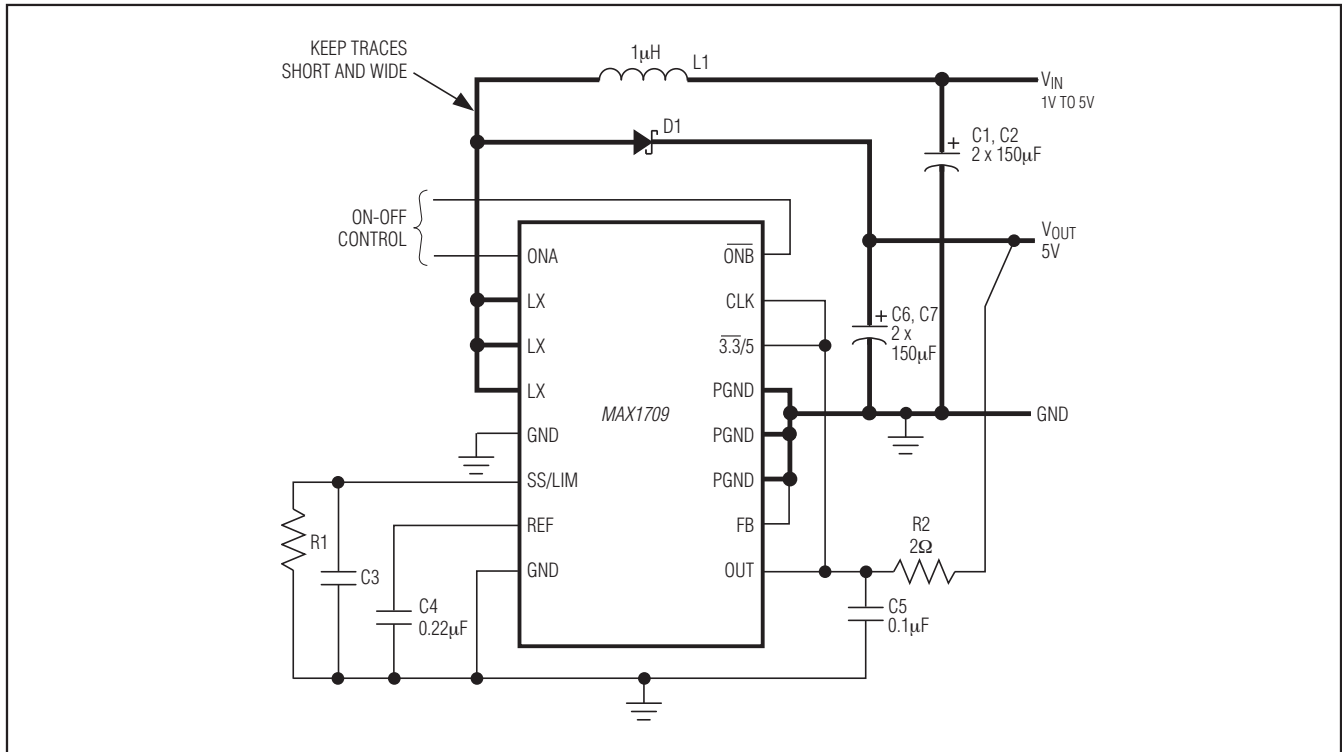
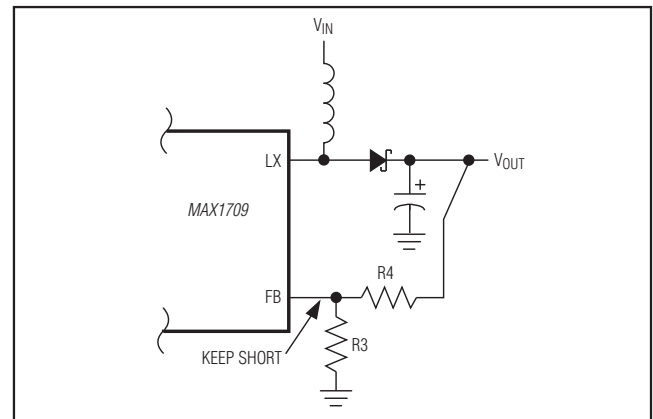

Figure 1. Standard Operating Circuit
Figure 4. Adjustable Output Voltage
**Note 1:** Output voltage is specified at 1A switch current ISW, which is equivalent to approximately 1A × (VIN / VOUT) of load current.**Note 2:** Load regulation is measured by forcing specified switch current and straight-line calculation of change in output voltage in external feedback mode. Note that the equivalent load current is approximately ISW × (VIN / VOUT).**Note 3:** Until undervoltage lockout is reached, the device remains in startup mode. Do not apply full load until this voltage is reached.**Note 4:** Startup is tested with Figure 1's circuit. Output current is measured when both the input and output voltages are applied.**Note 5:** Minimum operating voltage. The MAX1709 is bootstrapped and will operate down to a 0.7V input once started.**Note 6:** Supply current is measured from the OUT pin to the output voltage (+3.3V). This correlates directly with actual input supply current but is reduced in value according to the step-up ratio and efficiency.**Note 7:** ONA and  $\overline{\text{ONB}}$  inputs have approximately 0.15V hysteresis.**Note 8:** Guaranteed by design, not production tested.**Note 9:** Specifications to -40°C are guaranteed by design, not production tested.
on the logic applied to the 3.3/5 input (Figure 1). The output can be configured for other voltages, using two external resistors as shown in Figure 4. To set the output voltage externally, choose an R3 value that is large enough to minimize load at the output but small enough to minimize errors due to leakage and the time constant to FB. A value of R3 ≤ 50kΩ is required.
from its nominal value (see *Electrical Characteristics*). A resistor (R1 in Figure 1) between SS/LIM and ground reduces the current limit as follows:
The output filter capacitor ESR must be kept under 15m $\Omega$  for stable operation. Two parallel 150 $\mu$ F polymer capacitors (Panasonic EEFUE0J151R) typically exhibit 5m $\Omega$  of ESR. This translates to approximately 35mV of output ripple at 7A switch current. Bypass the MAX1709 IC supply input (OUT) with a 0.1 $\mu$ F ceramic capacitor to GND and connect a 2 $\Omega$  series resistor to OUT (R2, as shown in Figure 1).
Due to high inductor current levels and fast switching waveforms, proper PC board layout is essential. Protect sensitive analog grounds by using a star ground configuration. Connect PGND, the input bypass capacitor ground lead, and the output filter capacitor ground lead to a single point (star ground configuration). In addition, minimize trace lengths to reduce stray capacitance and trace resistance, especially from the LX pins to the catch diode (D1) and output capacitors (C6 and C7) to PGND pins. If an external resistor-divider is used to set the output voltage (Figure 4), the trace from FB to the resistors must be extremely short and must be shielded from switching signals, such as CLK or LX. Refer to a layout example in the MAX1709EVKIT data sheet.